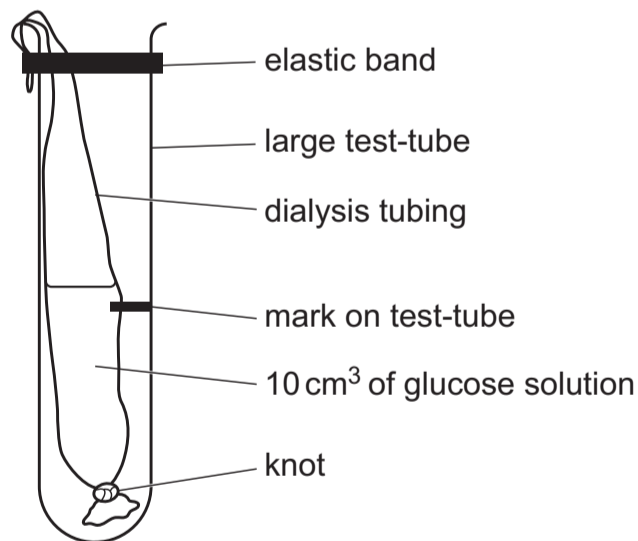

Fig. 1.2
step 6 Put the dialysis tubing containing **R** into the large test-tube and keep it in position using an elastic band as shown in Fig. 1.2.